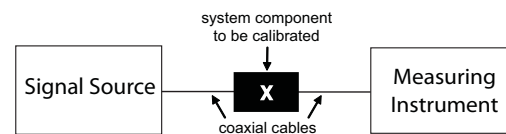

Figure 4 – Setup for Insertion Loss Measurements **(I)**
- 2) INSERTION LOSS MEASUREMENTS **(I)** – Without changing any equipment settings, and with the equipment set up as shown in Figure 4, measure and record the signal level (*in dBμV*) at the same frequencies used in Step 1.